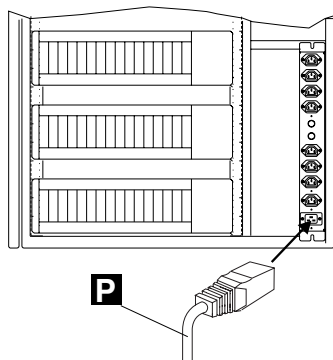

Figure 10. Power Cord for Power Strip
- \_\_\_ 16. If it is not already plugged, connect the main power cord **P** coming from the ac outlet distribution box to the customer receptacle (see Figure 10).